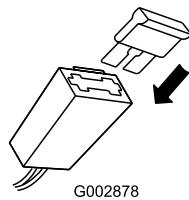

Figure 30
3. Replace the fuse in the fuse holder (Figure 30).